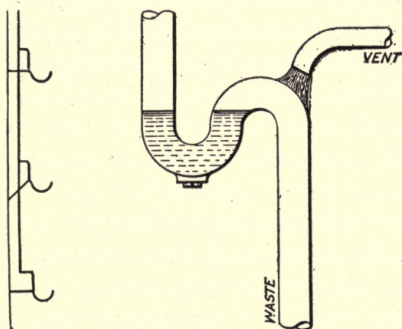

FIG. 59.—Crown venting.
**Crown venting**, Fig. 59, is as its name implies, a vent that is taken from the crown of the trap, thence into the main vent.